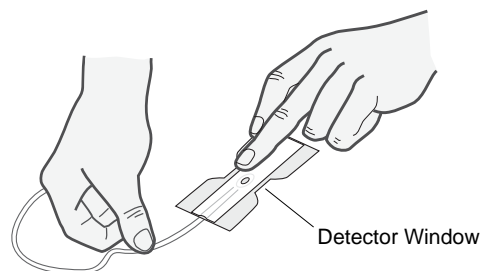

Figure 7
- Orient the sensor so that the digit can be attached to the detector side of the sensor first (see Figure 7).